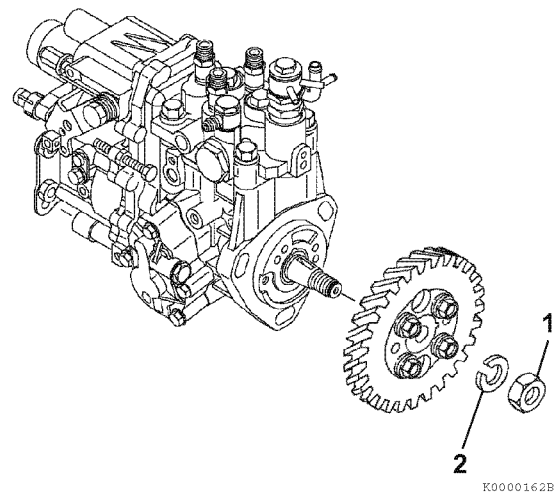

Figure 7-26
5. Reinstall the fuel injection pump drive gear lock washer (2, **Figure 7-26**) and nut (1, **Figure 7-26**). Do not lubricate the threads of the nut or shaft. Hold the crankshaft pulley bolt with a socket wrench and tighten the drive gear nut to the specified torque. See *Special Torque Chart* on page 7-7.